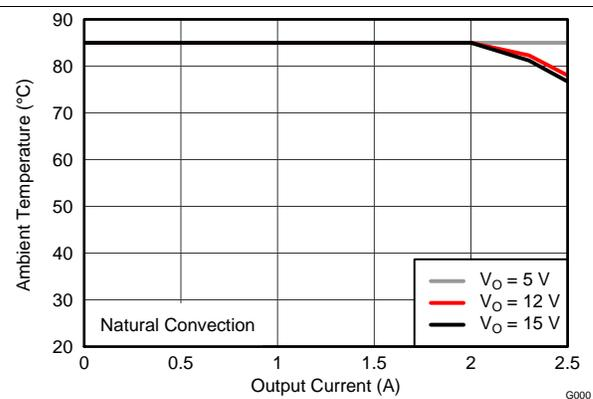

Figure 16. Safe Operating Area
- (3) The temperature derating curves represent the conditions at which internal components are at or below the manufacturer's maximum operating temperatures. Derating limits apply to devices soldered directly to a 100 mm x 100 mm double-sided PCB with 1 oz. copper. Applies to Figure 16.